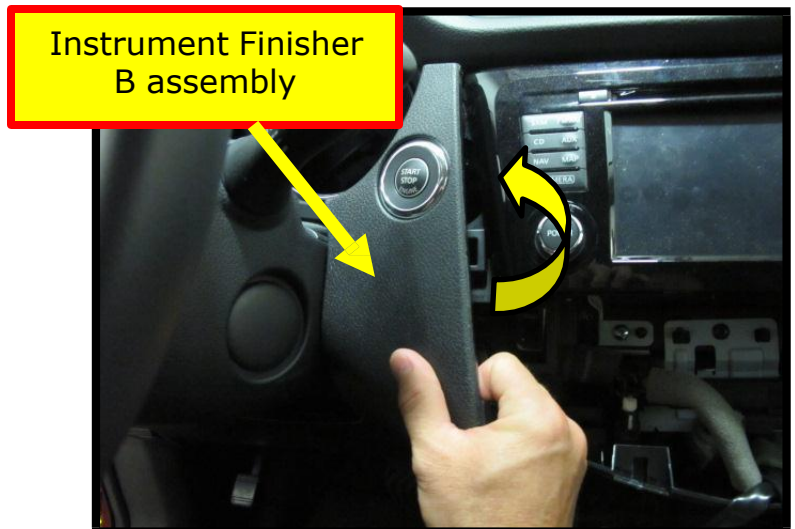

Figure 2
2. Remove Instrument Finisher B from dash as shown in Figure 2.